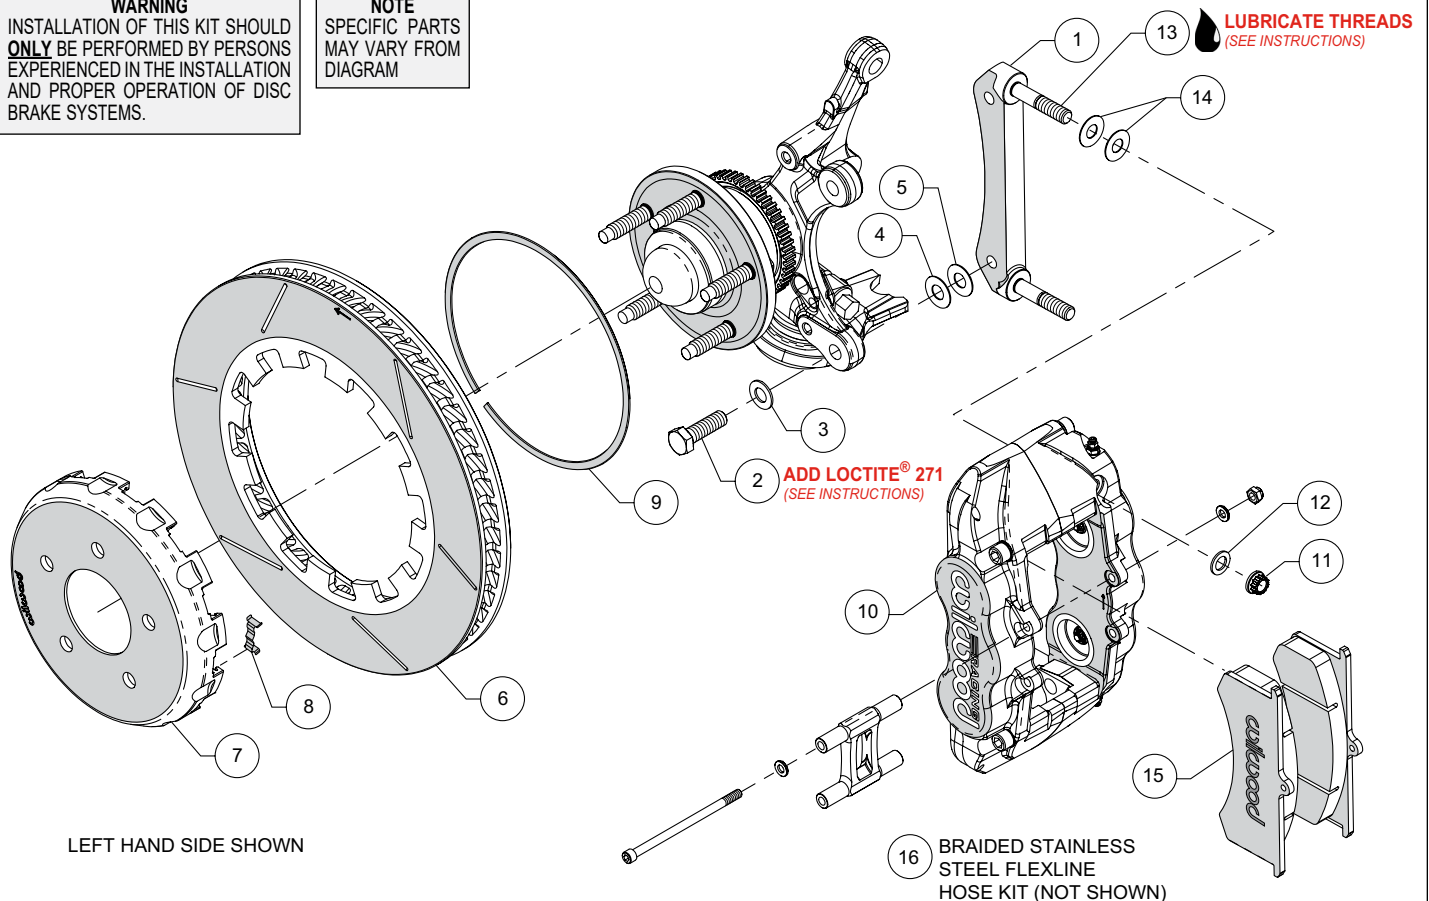

Figure 1. Typical Installation Configuration
**NOTE:** Numbers in parenthesis refer to the parts list and Figure 1 on the preceding pages.
- The caliper mount bracket (1) should initially be installed with clean, dry threads on the mounting bolts. Orient the bracket, as shown in Figure 1 and Photo 1, and install using bolts (2) and washers (3). Initially place one .033" thick shim (4) on each bolt between the bracket and upright, Figure 1. Temporarily tighten the mounting bolts. **NOTE:** The bracket must fit squarely against the mount bosses on the upright, Photo 2. Inspect for interference from casting irregularities, machining ridges, burrs, etc. Later, after the caliper alignment has been checked, the mount bolts will be secured using red *Loctite*® 271.
- Insert the dynamic mount wear clips (8) into the slots in the hat (7), Photo 3. Orient the rotor (6) as shown in Figure 1 and Photo 4, with the flush side of mount lugs facing the hat. Secure the rotor to the hat using the snap ring (9) by simultaneously pushing down on the rotor and installing the ring into the groove in the hat, as shown in Photo 5. Carefully inspect snap ring to ensure complete engagement in the groove.
- NOTE:** This kit contains distinct right and left hand calipers that must be mounted in a specific direction, as described below. Lubricate the caliper mounting studs (13) with lightweight oil. Initially place two .030" thick shims (14) on each stud between the caliper and the bracket, as shown in Figure 1 and Photo 6. Mount the caliper (10) onto the bracket (1) using lock nuts (11) and washers (12), Figure 1. Temporarily tighten the lock nuts. Ensure that the caliper is mounted so the largest pistons are at the rotor exit end of the caliper, in relation to the direction of the rotor. View the rotor through the top opening of the caliper. The rotor should be centered in the caliper, Photo 7. If not, adjust by adding or subtracting shims (4 and/or 5) between the bracket and
- Remove the caliper pad retainer bridge by unscrewing the two bridge bolt nuts, and removing the bolts and washers. Insert the brake pads (15) into the caliper with the friction material facing the rotor, Figure 1 and Photo 8. Check that the top of the brake pad is flush with the outside diameter of the rotor, Photo 9. If not, adjust by adding or subtracting shims (14) between the caliper and the caliper bracket. After the caliper pad height is set, torque the caliper lock nuts (11) to 47 ft-lb. Reinstall the caliper pad retainer bridge, bolts, nuts, and washers, Photo 10. Be cautious not to over tighten.
- **NOTE:** OEM rubber brake hoses generally cannot be adapted to Wilwood calipers. The caliper inlet fitting is a 1/8-27 NPT (use PTFE tape on pipe threads for proper sealing to caliper). Install Wilwood's stainless steel braided flexline hose kit (16), P/N 220-9111 included with this kit. **Carefully route hoses to prevent contact with moving suspension, brake or wheel components.** **NOTE:** Wilwood hose kits are designed for use in many different vehicle applications and it is the installer's responsibility to properly route and ensure adequate clearance and retention for brake hose components.